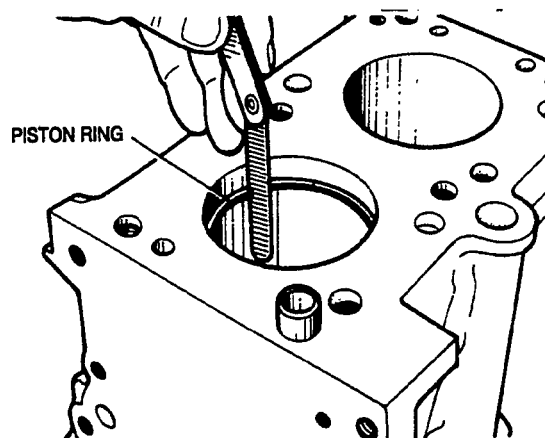

FIGURE 9-47. MEASURING PISTON RING GAP
3. Measure the piston ring gap by inserting ring into the cylinder. Use the piston to assure alignment and measure gap with a thickness gauge (Figure 9-47). If the gap exceeds the service limit, insert a new ring in the cylinder and measure gap. If the gap is still out of specification, check the cylinder wall for wear.